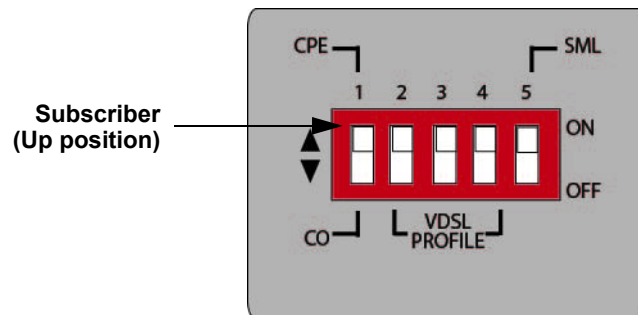

Figure 5. AT-MMC6005 in Subscriber (Up/CPE) Position
- DIP switch 1 sets the media converter to Subscriber or Provider: Up (CPE) sets the media converter to Subscriber; Down (CO) sets the media converter to Provider. Figure 5 shows the media converter set to Subscriber.